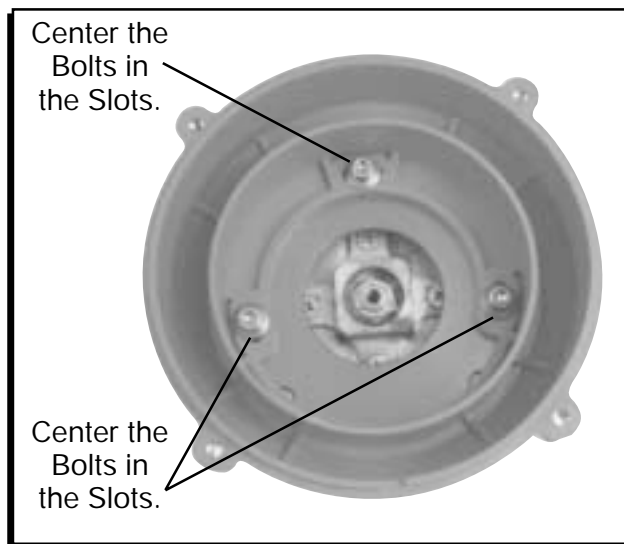

Figure 4 Installing the Adapter Ring.
4. Install the new adapter ring to the generator using the three new socket head cap screws and belleville washers (with the dome facing up). Position the adapter ring so the screws are in the middle of the adjustment slots (Figure 4). This sets the rotor phasing so the rotor tip is leading into the cap terminal when the magneto fires.